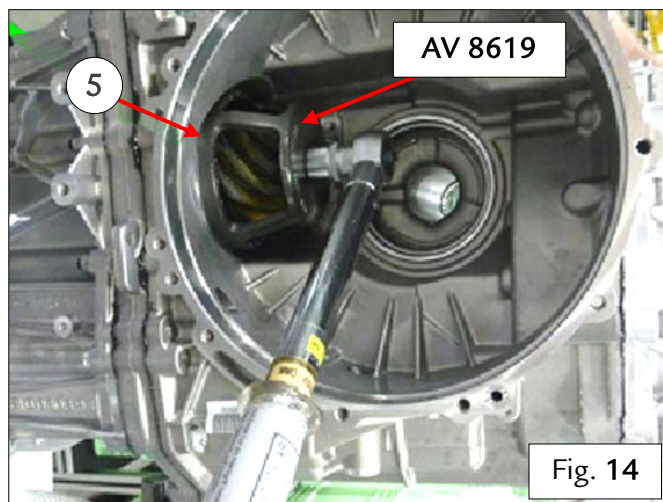

Fig. 14
- Place a container for collecting the fluid under the ATF clutch fluid drain plug orifice – Fig. 14.
- Remove the ATF clutch fluid drain plug indicated – Fig. 14.
- Using the tool 95978619 (AV 8619), remove the ring nut (5) fastening the plate to the differential housing – Fig. 14.